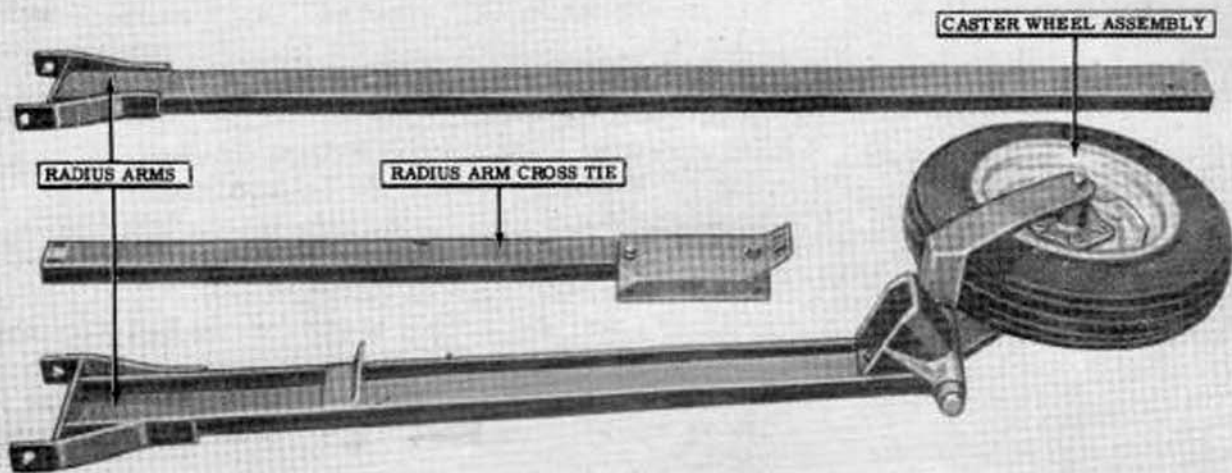
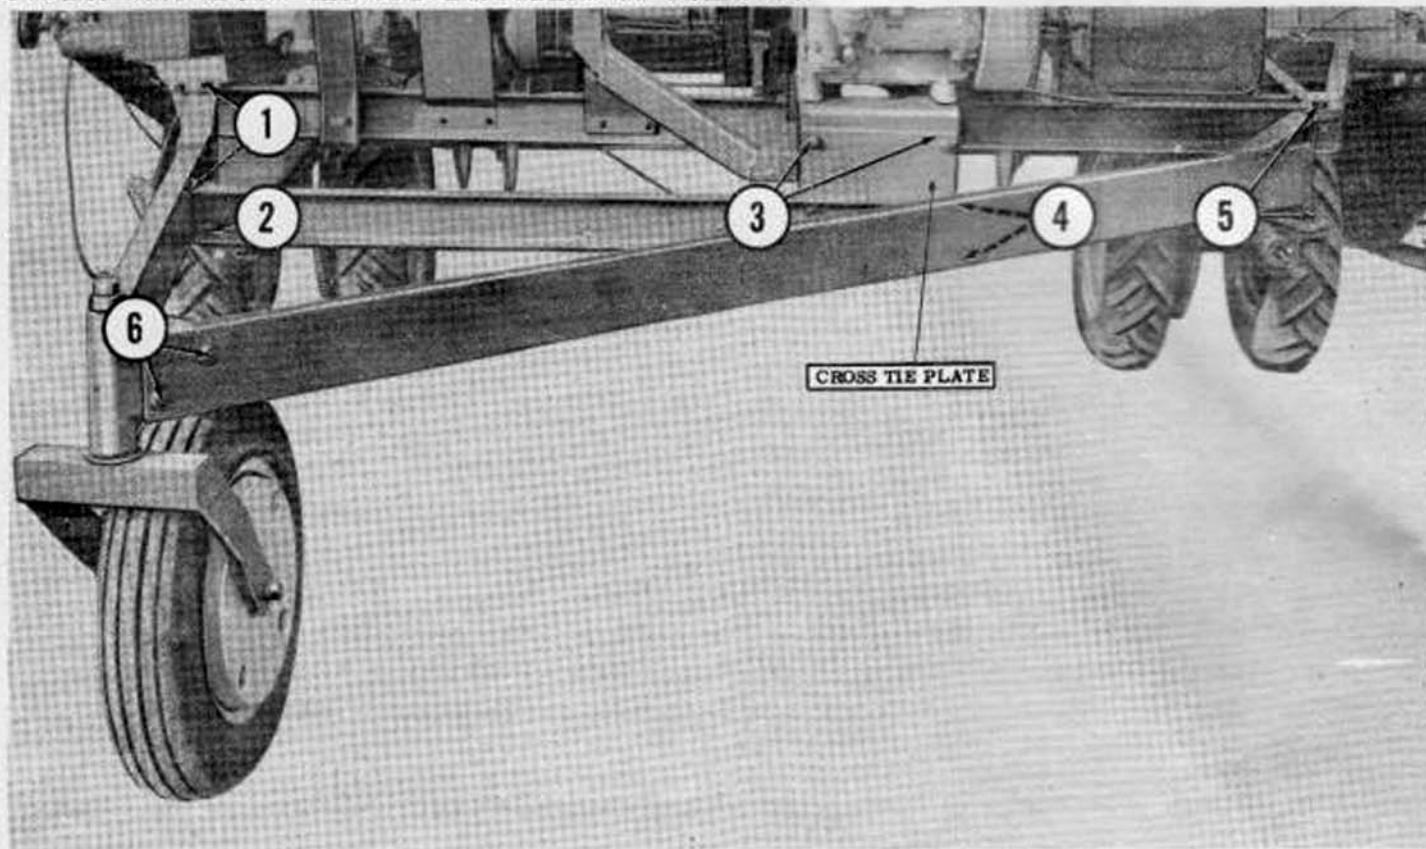

Figure 13
Figure 14
2. Bolt the shorter radius arm, Figure 13 (with the caster wheel attached) to the windrower at (1), Figure 14, with the two bolts, lockwashers and nuts provided.
3. Install the longer radius arm, Figure 13, as shown at (5) and (6), Figure 14, using the bolts, lockwashers and nuts provided.
4. Bolt the radius arm cross tie, Figure 13, between the radius arms as shown at (2) and (4), Figure 14, with the bolts, lockwashers and nuts provided.
5. Attach the cross tie plate to the engine mounting plate with two bolts, lockwashers and nuts as shown at (3), Figure 14, making sure that the overhanging weight of the engine is supported by the cross tie brace.